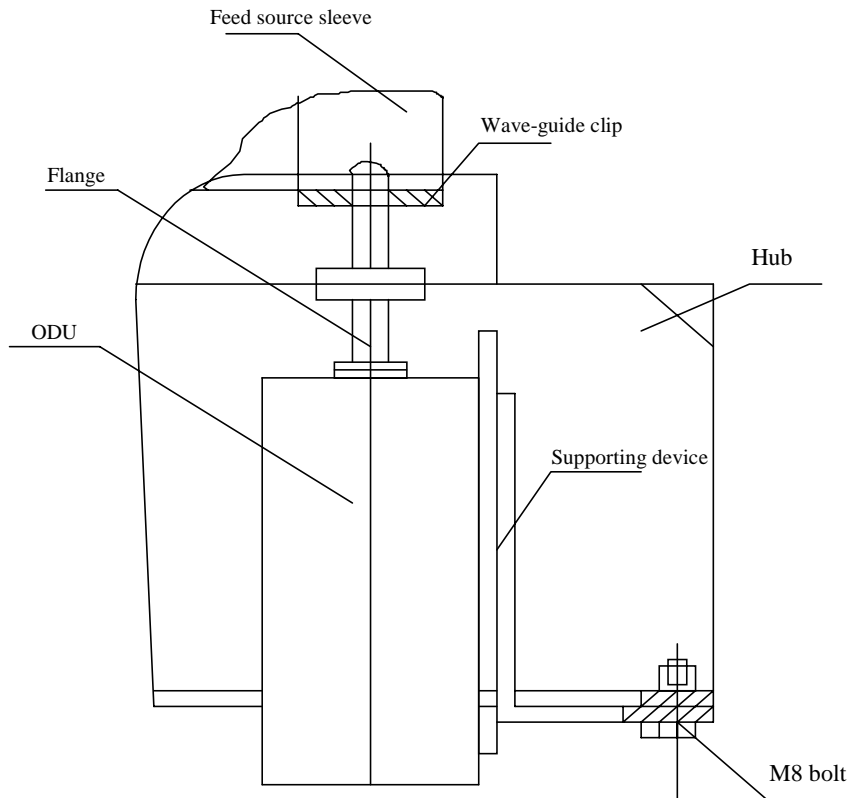

Fig. 11 ODU installation
2.3.8. ODU supporting device installation (See Fig. 11)